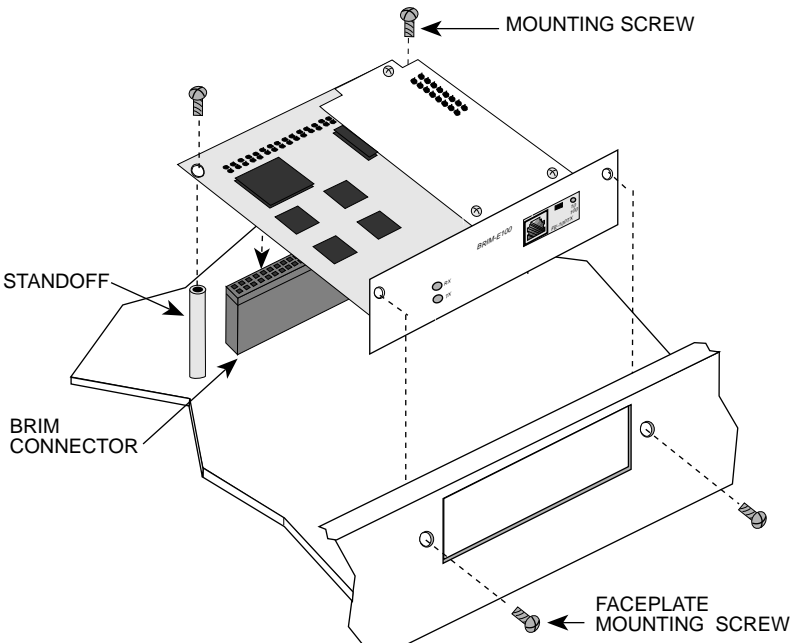

Figure 3-5 Installing the BRIM-E100
7. Place your BRIM-E100 behind the MIM faceplate. See Figure 3-5.
6. Place the BRIM-E100 behind the hub faceplate. See Figure 3-5.